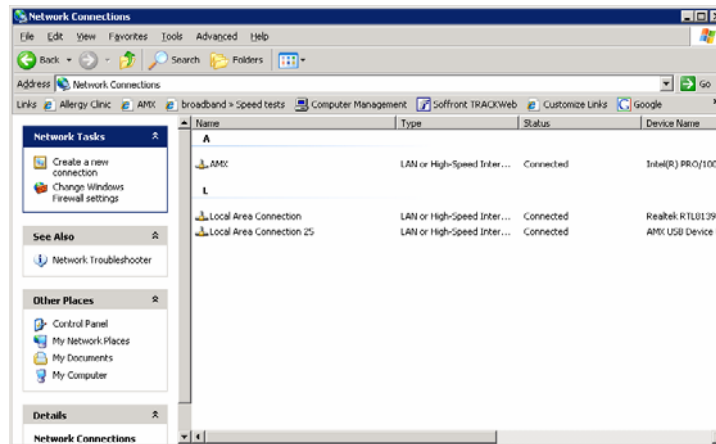

FIG. 112 Network Connections window
2. In the *Control Panel* window, click on the **Network Connections** icon to open the Network Connections window (FIG. 112)